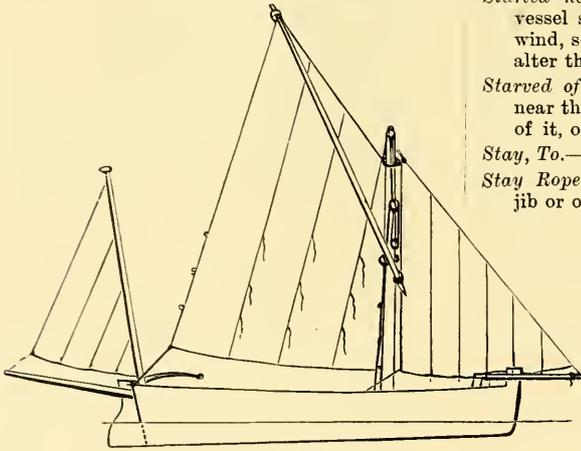

FIG. 336.
**Sprit Sail.**—A four-sided sail stretched by a pole termed a sprit (Fig. 336). This is a time-honoured contrivance for setting a sail